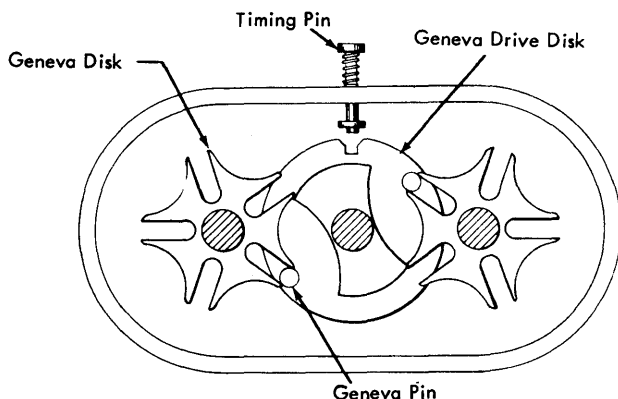

Figure 4-20. Geneva Unit
2. To check for Geneva gear backlash or for wear of the Geneva pins (Figure 4-20):
The Geneva unit is timed so that the timing pin is in the notch of the Geneva drive disk at 0° on the index (Figure 4-20). If the Geneva is out of time: